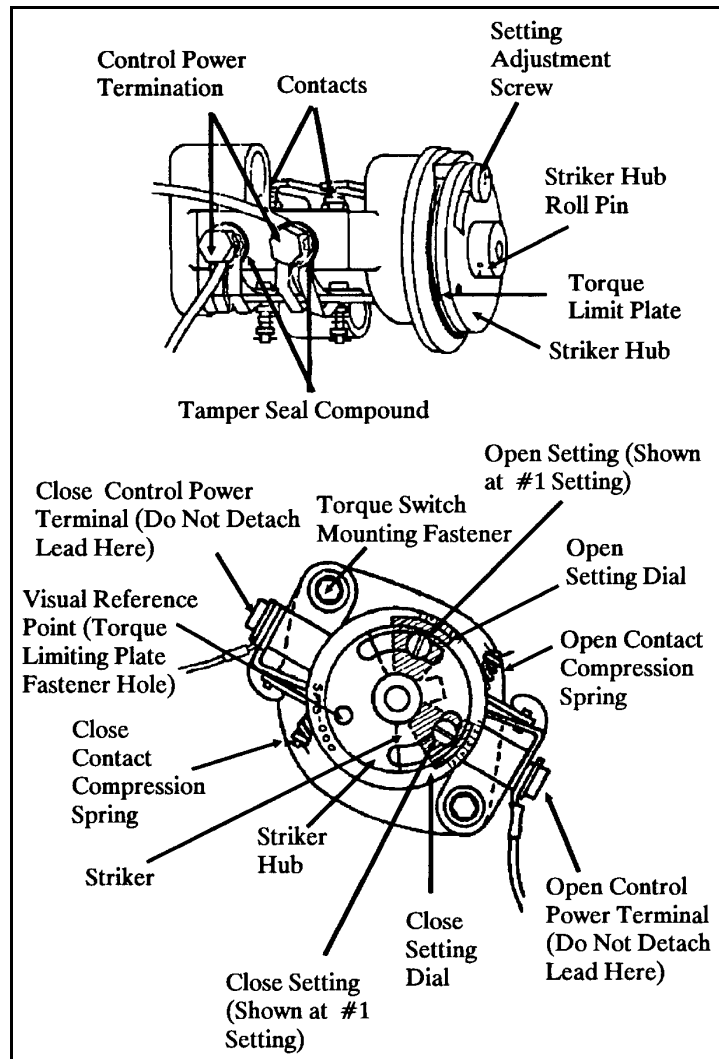

Figure 4-19 Torque Switch Contact Setting
2. With the spring pack relaxed, record the as-found open and close switch settings. (Figure 4-19)